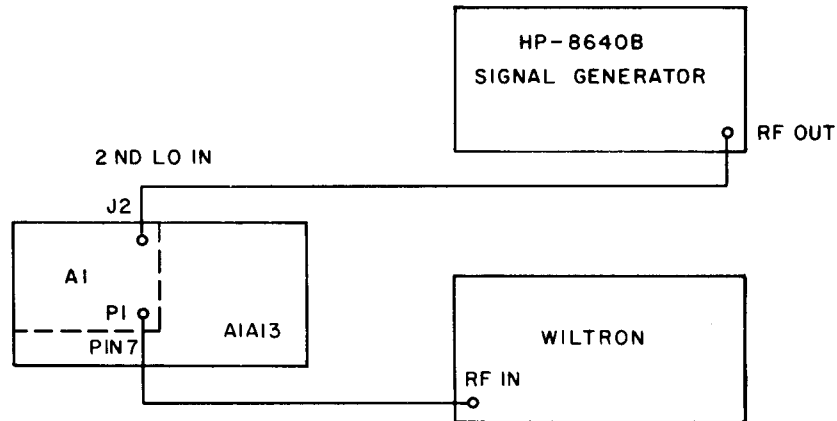

Figure 4-11. Second Converter Alignment, Equipment Connections
- 7) Connect the test equipment as illustrated in **Figure 4-11**.